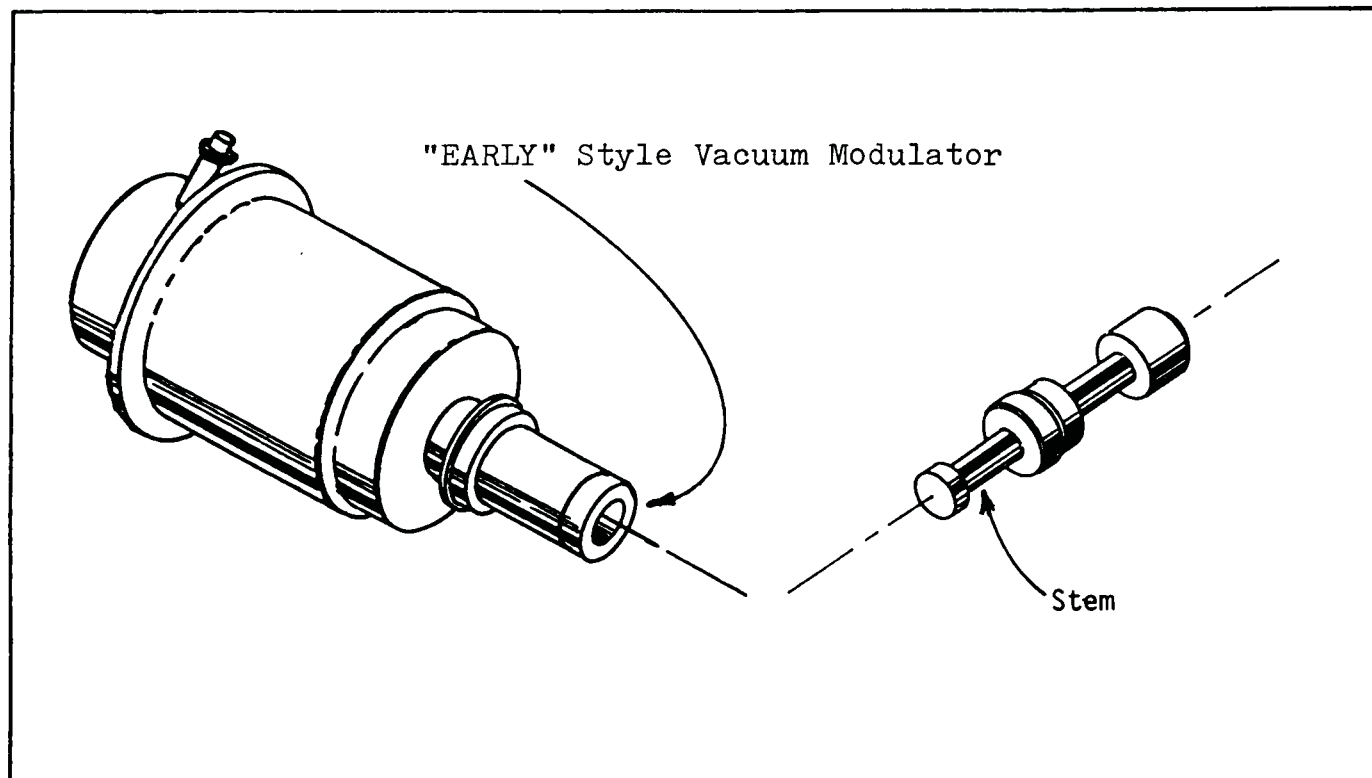

Figure 54
(Compare Figures 54 and 55). Occured Approx. July, 1986.
- 1) Vacuum Modulator - Late design has plunger sticking out of modulator (See Figures 54 and 55).
- 2) Modulator Valve - Redesigned to be compatable with "Plunger" style modulator. (Stem Removed--See Figures 54 and 55).